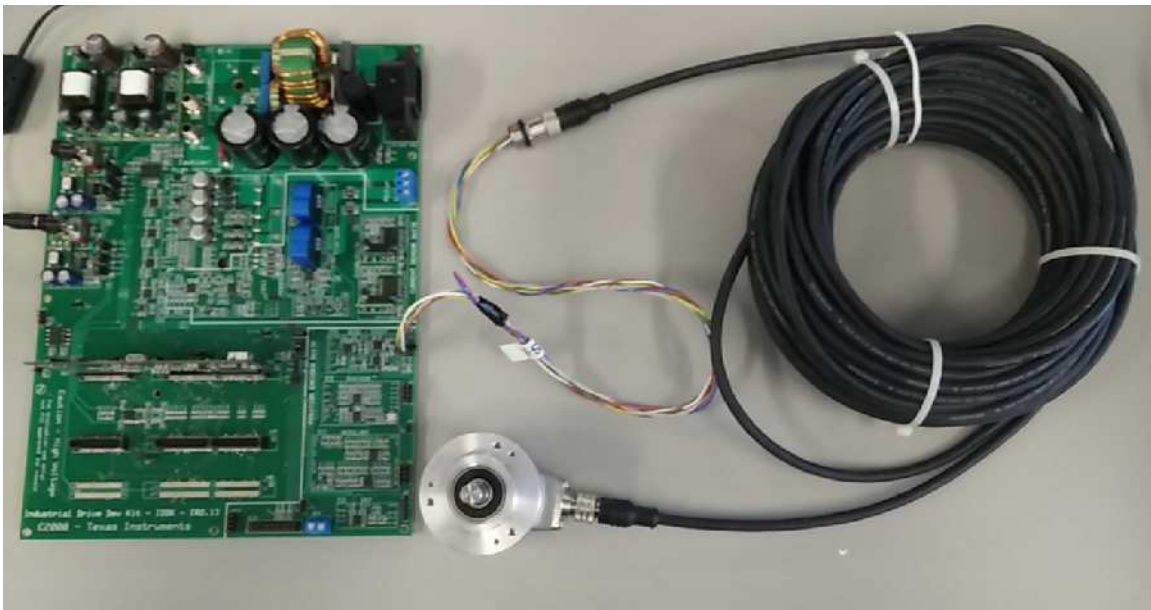

Figure 7. M12 Cable, Female End
- (b) Cable connections between the Encoder and IDDK: insert the header created using the adapter cable above into the [Main] – H6 4x2 header of IDDK. The other end of the adapter connects to the male side of the M12 cable. The female end of the M12 cable connects to the encoder as shown in Figure 7.